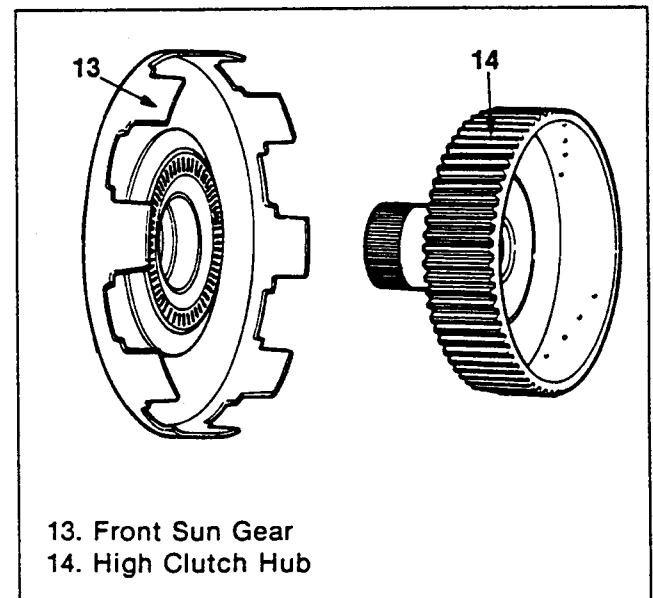

Figure 28. Front Sun Gear Removal
Front Sun Gear (Figures 28 and 29)
1. Remove the high clutch hub and the front sun gear (figure 28).